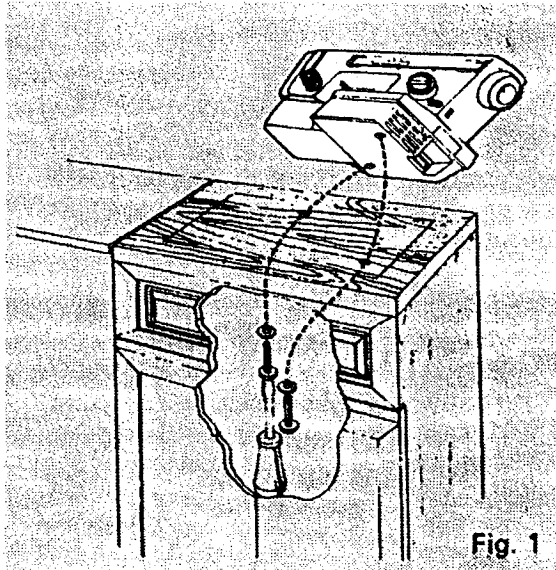

Fig. 1
1. To install the machine in cabinet, position machine head on cabinet platform so that holes on bottom of machine match those on board. Insert washers and screws and tighten into place. (Fig. 1)
1. Remove the base from the machine by pushing the release button (if applicable) and pulling the base to the left. (Fig. 1, 2)
2. To replace the base, simply slide it along the free arm to its original position. (Fig. 1)